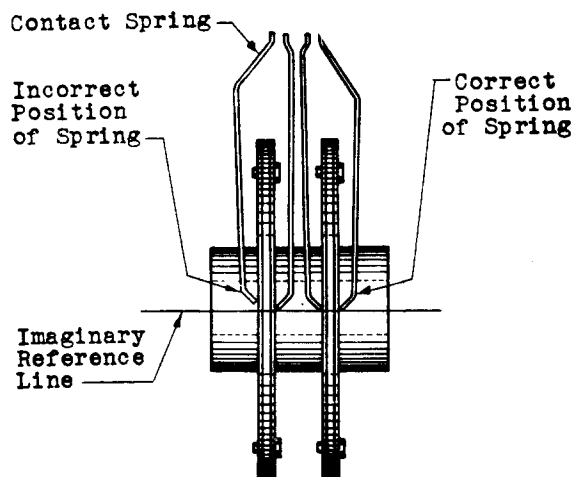

Fig. 13 – Relative Position of the Contacting Edge of the Spring with Respect to the Associated Cam
(3) In readjusting springs take care not to alter the effective length of the spring or to alter the angle at which the spring meets the cam sufficiently to change the relative position of the contacting edge of the spring with respect to the associated cam. See Fig. 13.